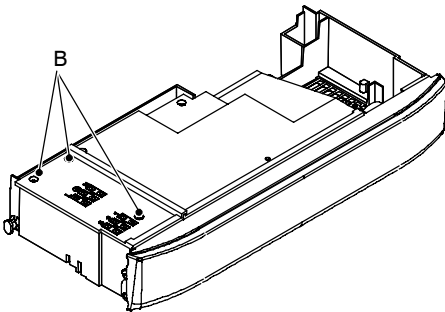

Fig. 7.6
- Loosen the screws B and remove the service panel (Fig. 7.6).